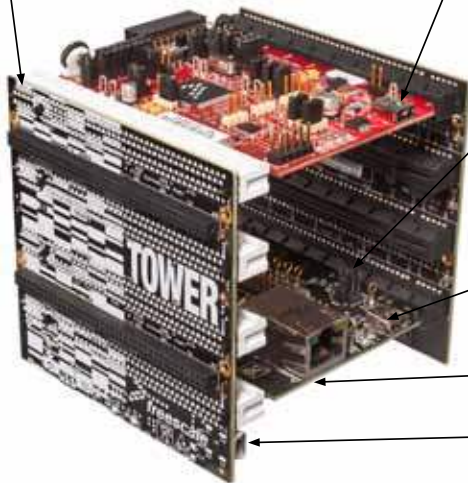

Figure 2: Tower System Assembled
1. Build the Tower System as shown in Figure 2, and make necessary configurations according to the notes that point to the component settings.
NOTE: Figure 2 is a Tower System without the optional MED-EKG assembly. For details on how to assemble the MED-EKG, please refer to Lab 1 on the DVD.